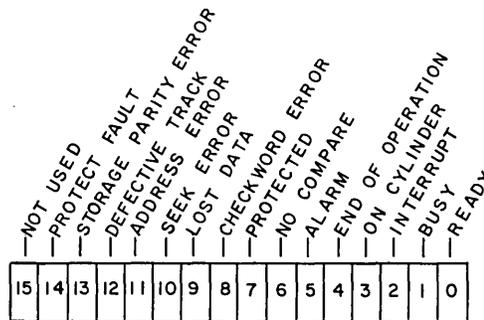

Figure 10. A Register During Director Status Function
Director Status (001): For this input function, the A register receives the status condition of the controller and disk storage drive unit. The status response bits are illustrated in Figure 10.